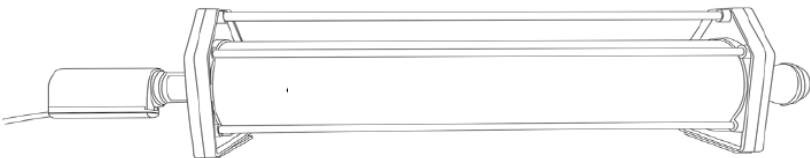

Figure 6
1. Attach the flow head to the syringe as per figure 6.